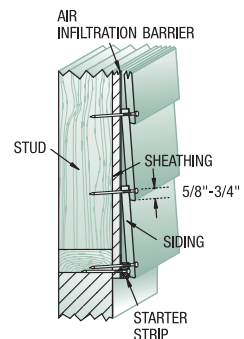

FIG. 5
- **Note: For Self-Aligning Lap Siding** place the self-aligning lap edge on the top of each additional course; make sure the self-aligning lap joint is resting flat on the lower piece. See Fig. 5.